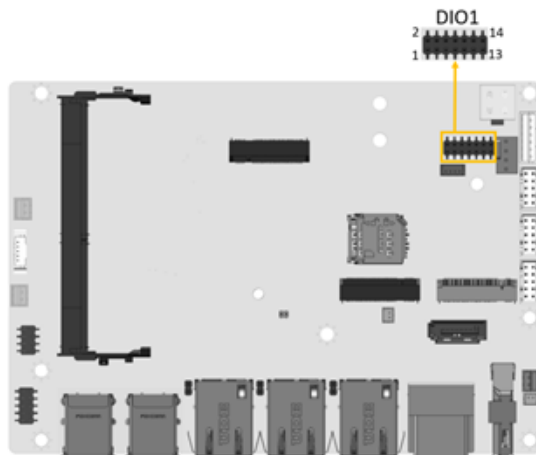

Figure 3-28: Digital I/O Connector Location
- CN Location:** See **Figure 3-28**